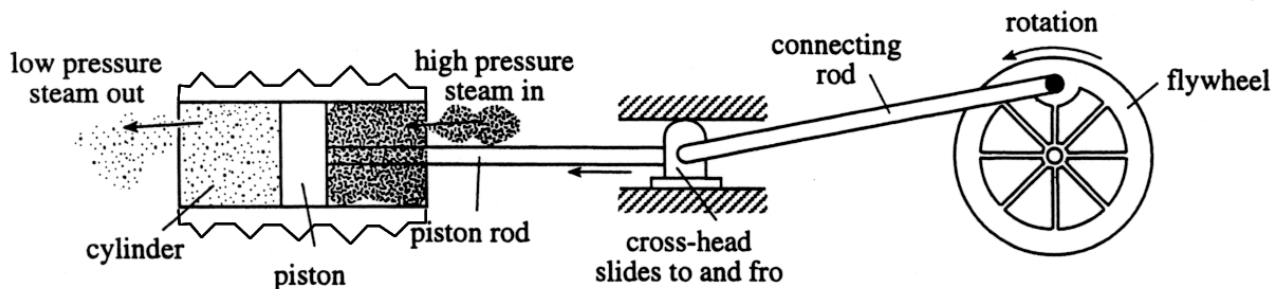

Figure 1 Mode of operation of a steam engine
An engine converts heat energy into mechanical work. Often a piston moves to and fro (called reciprocating) in a cylinder and this is turned into rotary motion by a crank. The steam engine is called an external combustion engine because the fuel is not burned inside the cylinder. The heat energy reaches the cylinder as pressurised steam applied to both sides of the piston in turn in this double acting engine shown in Figure 1.
1.6 The outside of the cylinder (Figure 1) has metal “fins” sticking out. This is to